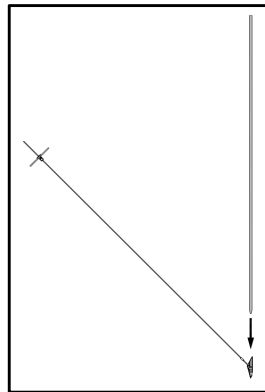
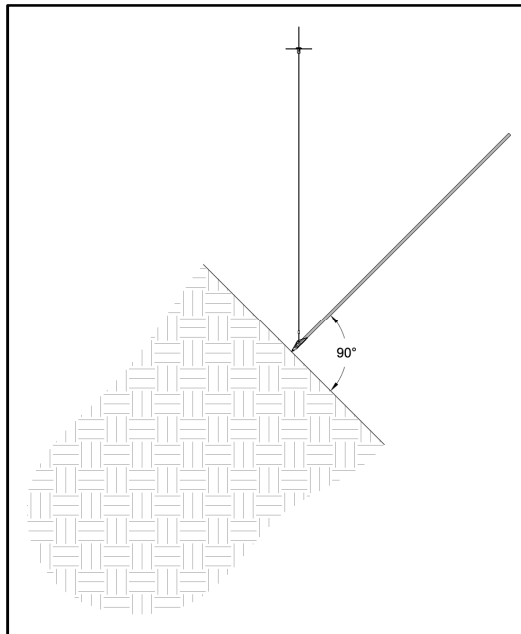

Figure 22: Insert Drive Steel into Anchor
Figure 23: Position Anchor Head / Drive Steel Tip
2. Insert the tapered end of the drive steel into the hollow cavity of the anchor head. Position the anchor head/ drive steel tip above the ground at the drive location (Figure 22 and Figure 23).